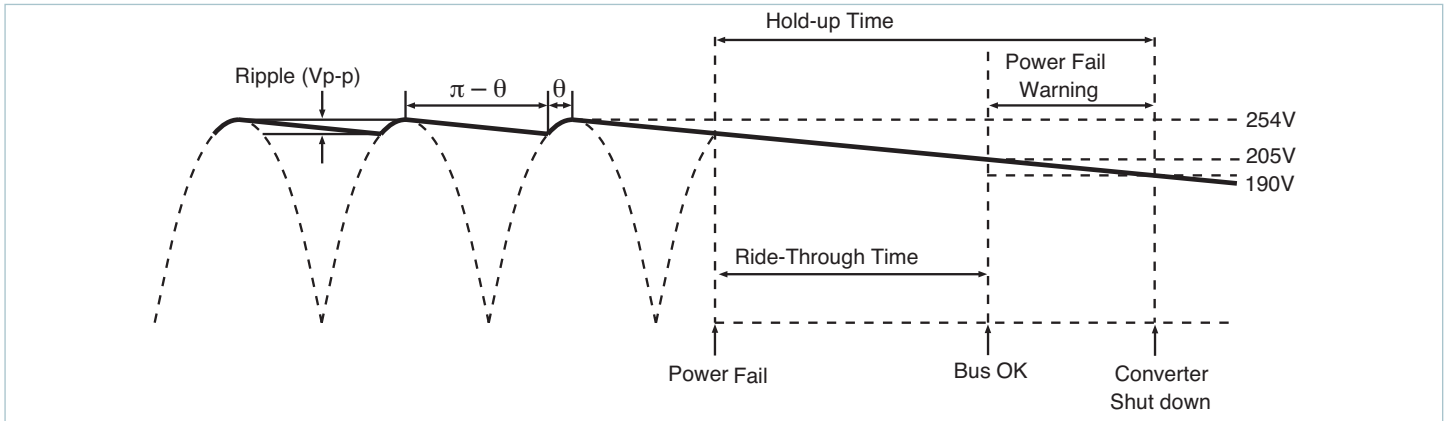

Figure 14 — Hold-up time
**Hold-up Capacitors:** Hold-up capacitor values should be determined according to output bus voltage ripple, power fail hold-up time, and ride-through time. (See Figure 14). Many applications require the power supply to maintain output regulation during a momentary power failure of specified duration, i.e., the converters must hold-up or ride-through such an event while maintaining undisturbed output voltage regulation. Similarly, many of these same systems require notification of an impending power failure in order to allow time to perform an orderly shutdown.
For example, a converter whose output is 15V and nominal input is 300V will provide 56dB ripple rejection, i.e., 10Vp-p of input ripple will produce 15mVp-p of output ripple. (See Figure 18) Equation 3 is again used to determine the required capacitance. In this case, V1 and V2 are the instantaneous values of bus voltage at the peaks and valleys (see Figure 14) of the ripple, respectively. The capacitors must hold up the bus voltage for the time interval ( $\Delta t$ ) between peaks of the rectified line as given by: